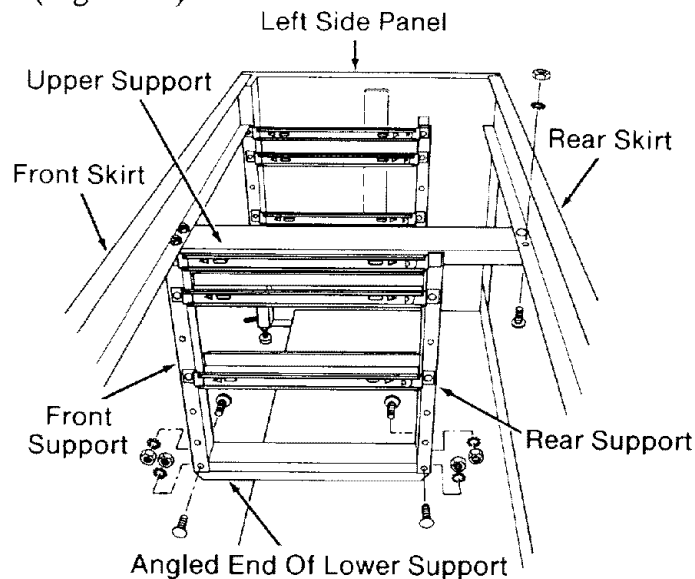

Fig. 43
33. Tilt this whole assembly and slide it into place on the cabinet. Make sure that the *front support* extends between the *front skirt* and the angled end of the *lower support*, and that the *rear support* is inside the cabinet. (Figure 43)
34. Attach the *upper* and *front supports* to the *front skirt* using two truss head bolts, lock-washers, and hex nuts. Make sure the heads of the bolts point down as shown. (Figure 43)
35. Attach the *upper support* to the *rear skirt* using two truss head bolts, lockwashers and hex nuts. Make sure the heads of the bolts point down as shown. (Figure 43)
36. Attach the *front* and *rear supports* to the *lower support* using four truss head bolts, lock-washers, and hex nuts. (Figure 43)